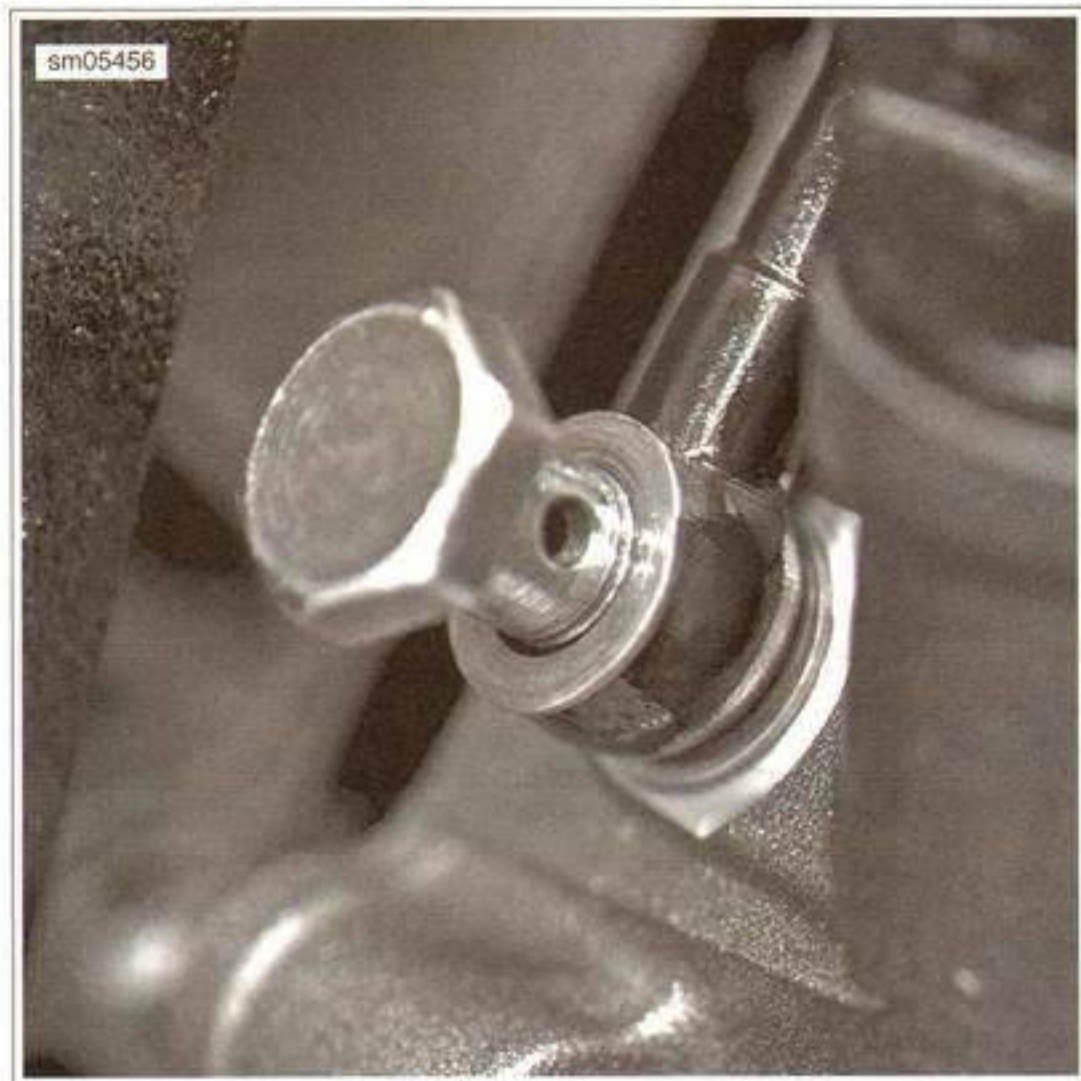

Figure 3-108. Vent Tube Banjo Bolt
1. See Figure 3-108. Remove the vent tube banjo bolt and copper washers.